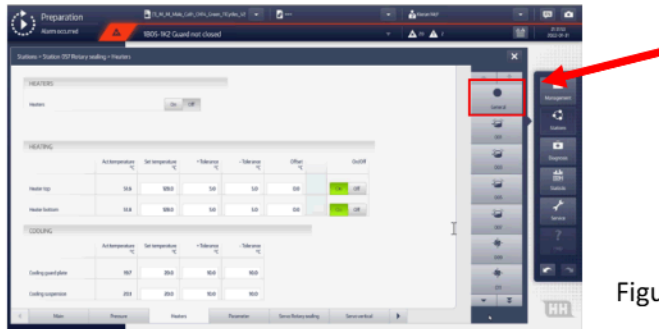

Figure 2
- 2. Press the general button (Figure 2)